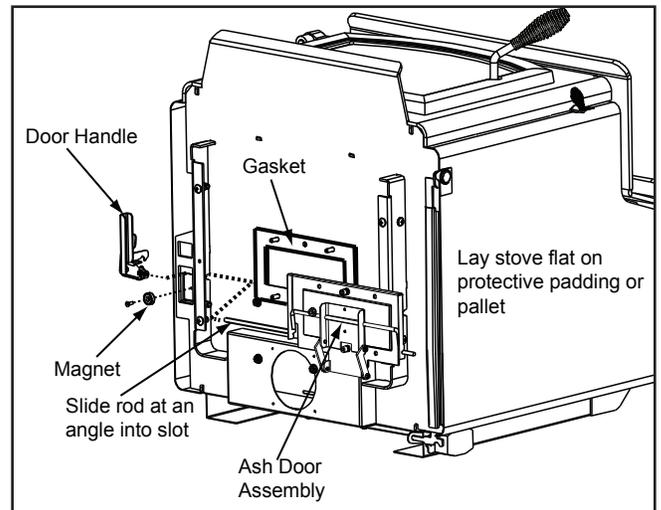

Figure 41.2
3. Remove the 2 nuts and 2 bolts holding the ash grate channel in place and set the channel aside. Discard the 2 nuts. Install the gasket over the 8 protruding screws. **Figure 41.2.**
Slide the ash door over the 8 screws protruding from the bottom of the stove. Secure with nuts and washers provided. **Figure 41.2.**
6. Install magnet using a Phillips head screwdriver. This magnet will hold the door handle in an open position which in turn holds the ash door open so ashes can be brushed into the ash drawer. **Figure 41.2.**